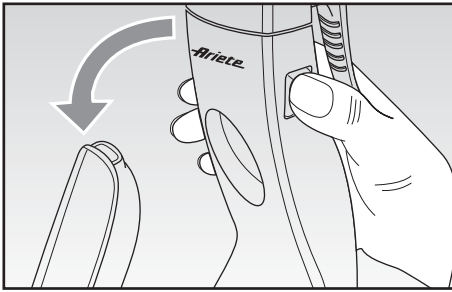

Fig. 3
- By holding the handle of the appliance body (M), press the unlocking button (A) and remove the handheld vacuum cleaner complete with power cord (Fig. 3).